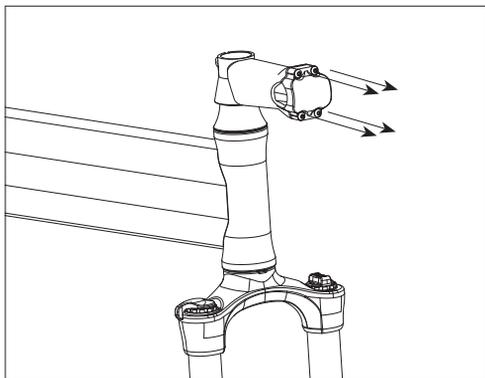

Fig. 12: Remove the stem clamp.
1. Using the provided hex wrench, remove the two screws (or four, depending on model) holding the stem clamp in place (Fig. 12).